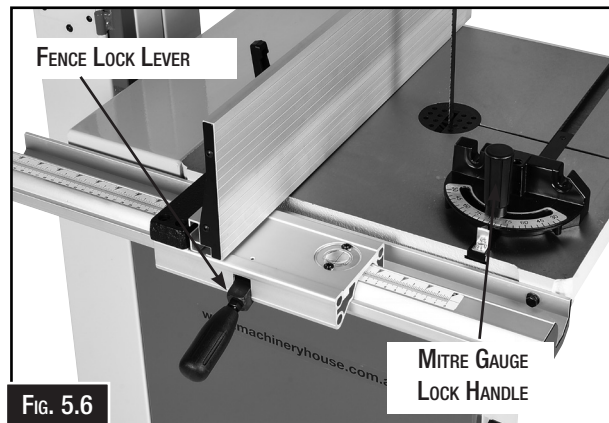

FIG. 5.6
**Mitre Gauge Lock Handle:** Locks the mitre gauge at the current setting. (Fig. 5.6)
**Fence Lock Lever:** Locks the fence at its current position. (Fig. 5.6)